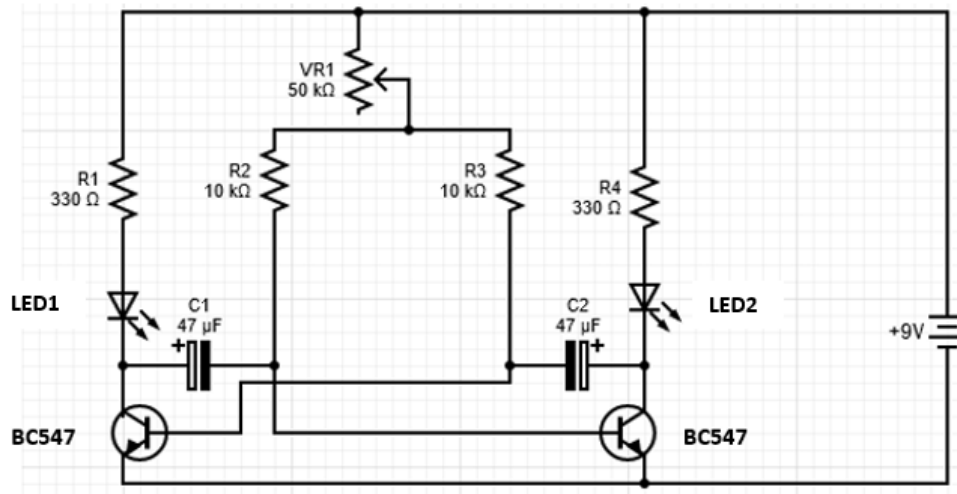
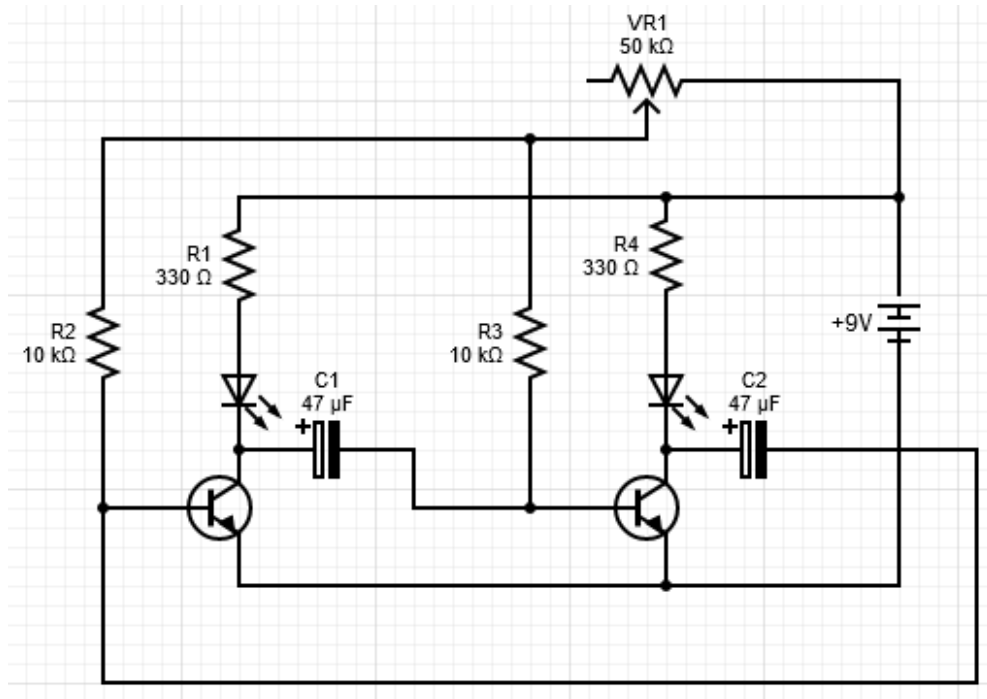

Fig. 2. The LED flasher
Fig. 3. The LED Flasher redrawn
**2.1.3. Varying the Blinking Time – the Variable Resistance —** As discussed earlier, the flash time of LEDs could be changed by varying the resistor values ( $R_2$  and  $R_3$ ) and/or varying the capacitor values ( $C_1$  and  $C_2$ ). Practically, it is difficult to change the capacitor values; so we'll try to change the value of the resistors. For this purpose, we use a  $50k\Omega$  variable resistor, one end of which is connected to the positive terminal of the battery and the other end to both  $10k\Omega$  resistors. The modified circuit then appears as in Fig. 2.
*3.1.1. Redrawing the circuit —* As a first step towards our objective, let’s redraw the LED flasher shown in Fig. 2 to a bit more simpler format as shown in Fig. 3.